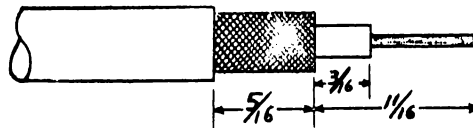

Figure 3-29
(1) The use of two-way or butt connectors shall require that the outer conductor be stripped back $11/16''$ from the cable end. The center conductor insulation shall be stripped back to leave $3/16''$ of insulation showing beyond the end of the braided conductor.
(2) When the coaxial cable or shielded conductor has an outer insulation, this insulation shall be stripped back $5/16''$ from the end of the braided conductor, as shown in Figure 3-29.
(3) Install inner ferrule between the center conductor insulation and the braided shield.